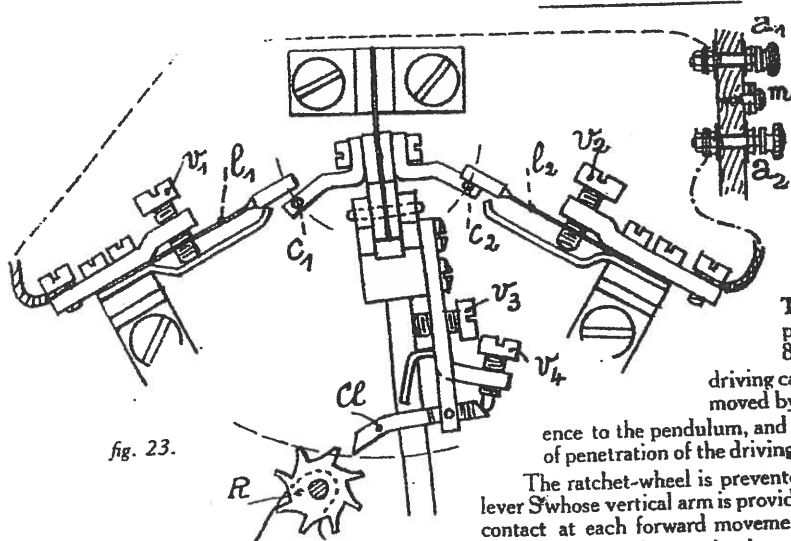

fig. 23.
**CONTACT MAINTAINING THE OSCILLATIONS.**—The first part of the mechanism is an 8-teeth ratchet-wheel driven by a driving catch (fig. 23), the axis of which can be moved by means of the screw V3 with reference to the pendulum, and the screw V4 is to regulate the depth of penetration of the driving catch into the tothing of the wheel.
This is done as shown on fig. 23. When the pendulum is vertical, the springs 11 and 12 are both in contact with the pins C1 and C2, which are interconnected, and the current passes through them. When the pendulum is on the right of the vertical the pin C1 leaves the blade 11, and the current is interrupted. Similarly, when the pendulum is on the left of the vertical, the pin C2 leaves the blade 12.